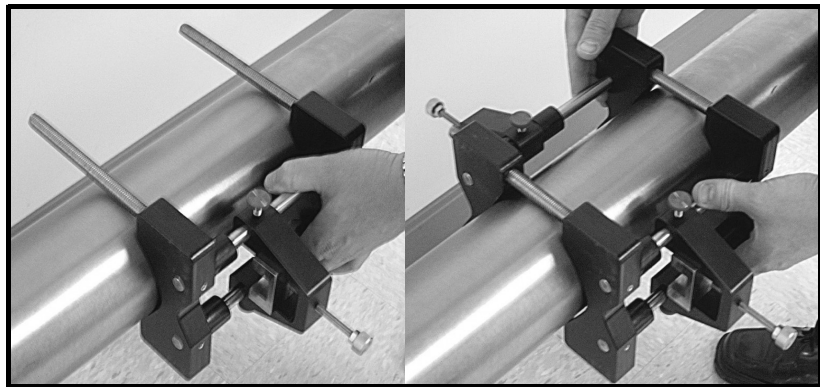

Figure 1-6: Mounting the Two Halves of the Fixture
1. Position the half of the clamping fixture with the threaded rods around the pipe, as shown in Figure 1-6 below. Orient the fixture in the 3 o'clock position on a horizontal pipe.
2. Position the mating half of the fixture over the threaded rods in the 9 o'clock position. Figure 1-6 below shows the two mounted halves.